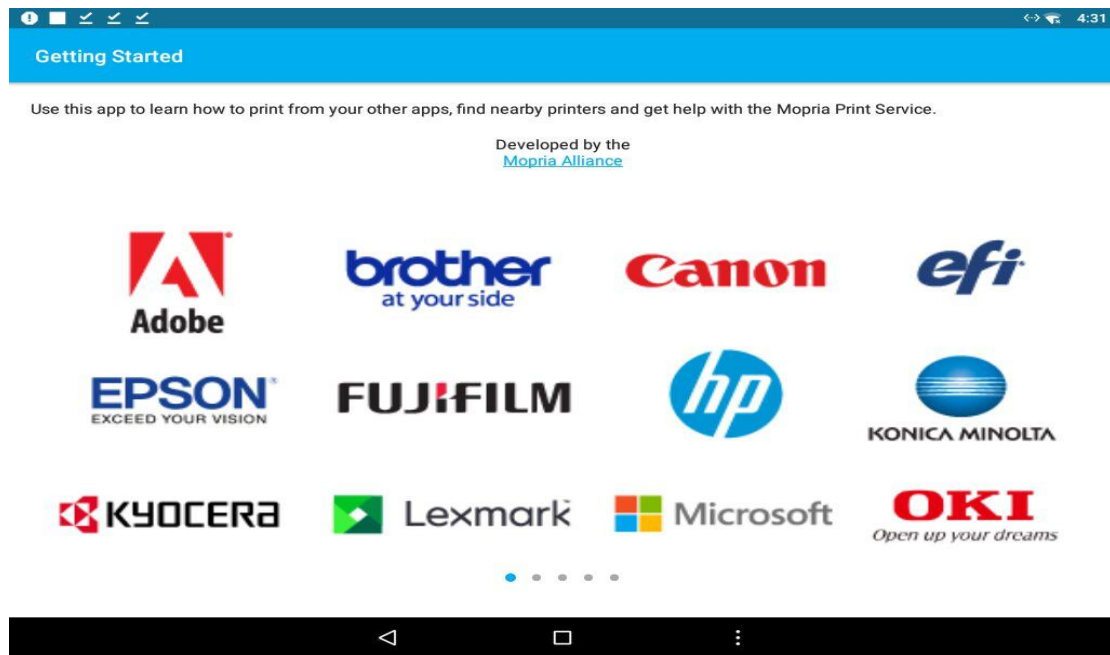
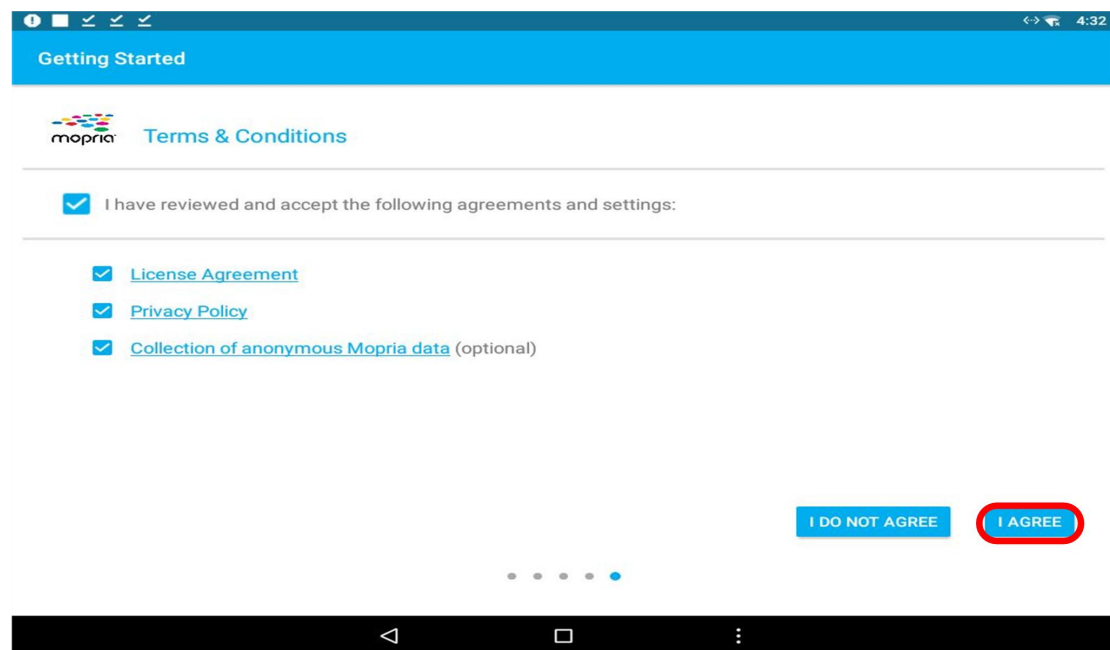

Figure 6
Figure 7
3. Open the installed printing software, as shown in Figure 6. Go to the last page and check "**Agree**" license agreement and privacy policy. Click "**I agree**" to start using the software, as shown in Figure 7.